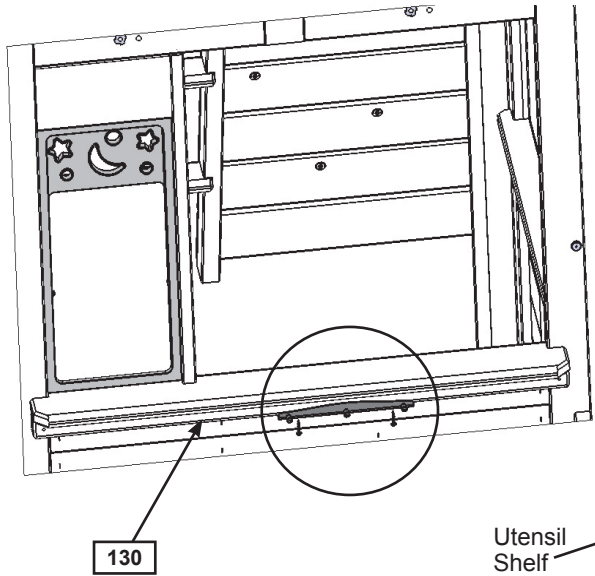

Fig. 41.4
**D:** From outside the assembly on the under side of (130) Table Support, centred under the Kitchen Set, attach 1 Utensil Shelf with 2 (S10) #8 x 1" Pan Screws. (fig. 41.4 and 41.5)